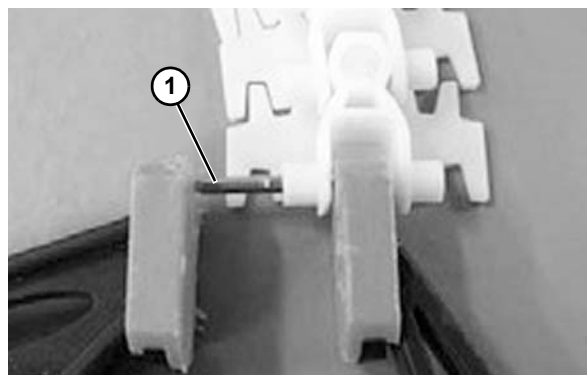

Figure 49
2. Insert the steel pin (**Figure 49, item 1**) halfway, using a pair of pliers. Always use new steel pins and plastic pivots when joining chain ends.